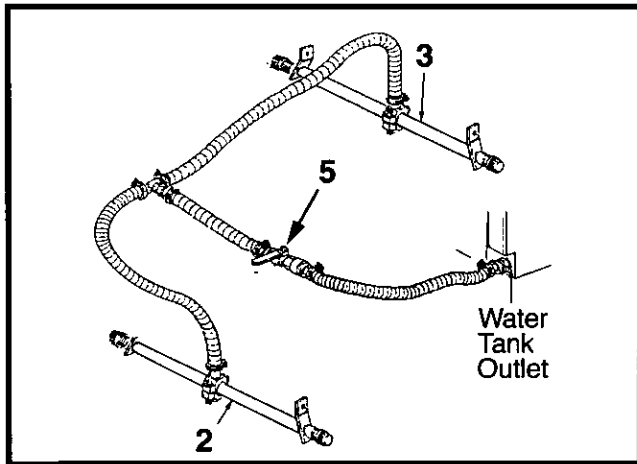

Figure 5-31 Water Sprinkler Bars and Hosing
2. Remove each water tubing as necessary by releasing hose clamps (2, Figure 5-31), clean/flush out any sediment buildup.
5. Open water control valve (1, Figure 5-31) and check water flows from all spinkler bar jets to effectively wet the drum width.